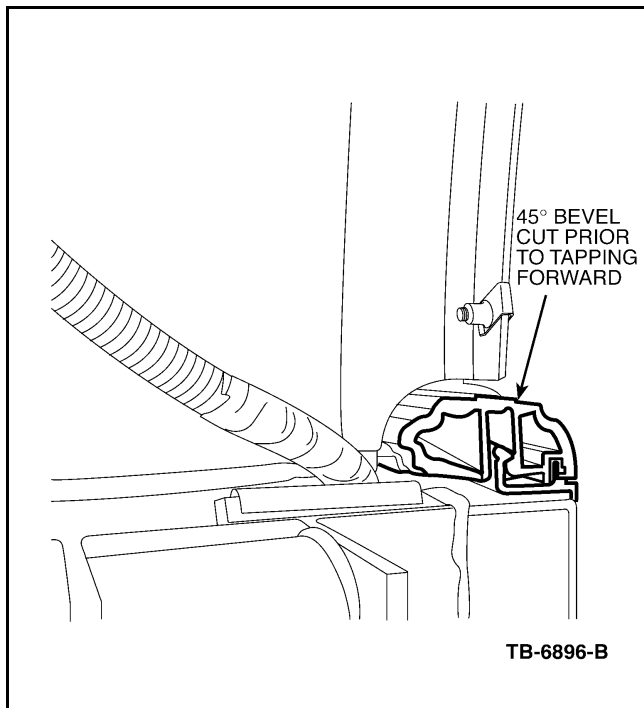

Figure 4 - Article 03-2-1
13. Cut a 45 degree angle cut on the inside corner of the right side upper rocker molding. This is the area where it fits into the right rear wheel well opening, see Figure 4.